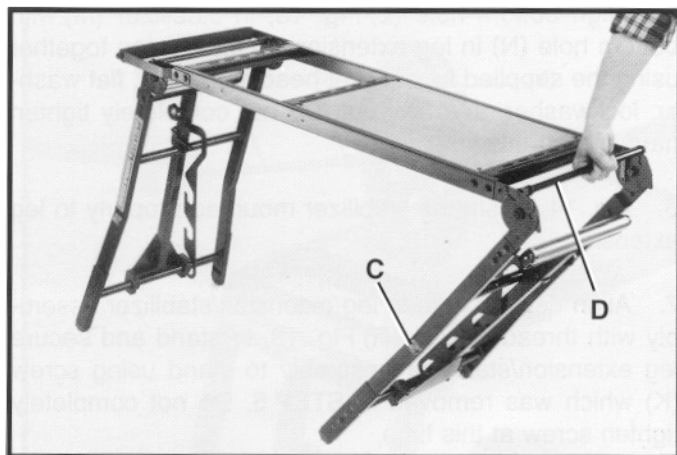

Fig. 9
2. Standing directly behind leg (C) Fig. 9, lift up bar (D) and pull out leg (C) until it locks in place.